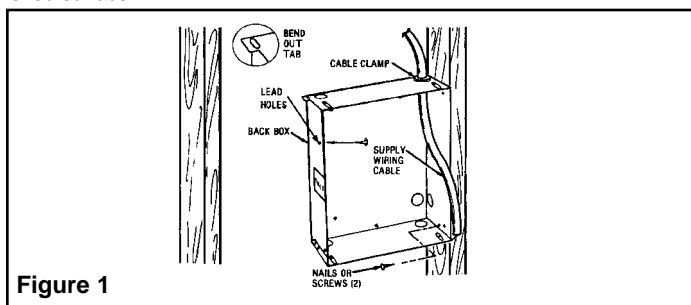

Figure 1
1. Determine which side of the back box is to be mounted against a stud and bend the tabs at the rear corners out 90 degrees so that the back box will be square with the stud after installation. (See Figure 1).
3. Position back box against side of studs and secure using nails or screws as shown in Figure 1.
NOTE: Lead holes for a #8 sheet metal screw have been provided in the sides of the back box.. After the finished wall or ceiling has been put up, drive a # 8(m4) sheet metal screw (recommended 1" long) through the side of the box not mounted to the stud. This will prevent the back box from pulling out when installing the heater assembly. (See Figure 1)